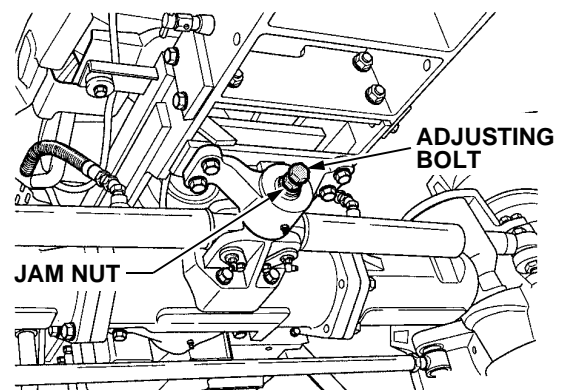

Figure 40
- If play is felt, loosen the jam nut on the adjusting bolt in the center of the front axle support. See Figure 40.